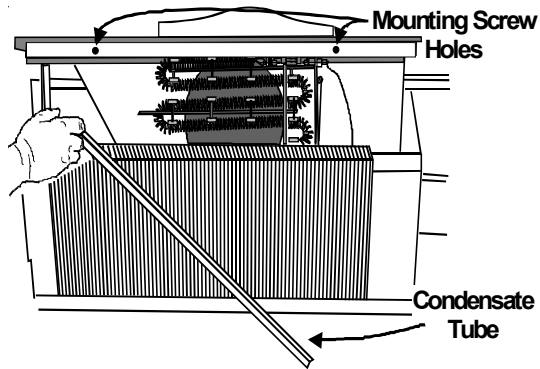

Figure 2
- Lift the blower panel approximately 10 inches by unscrewing two screws holding the blower panel to the chassis and lift upward being careful not to pinch heater wires (Figure 2).
- Using the short leg of the condensate tube push out the 1/2 inch diameter knockout on the back wall of the styrofoam scroll. The condensate tube should protrude through the partition panel by 1-3/4 inches. Rotate the condensate tube so the tube lays flat on the coil (Figures 2 & 3).